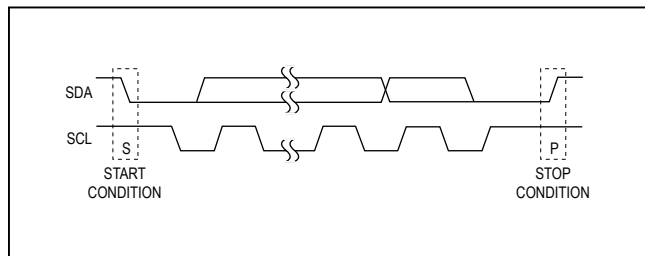

Figure 2. Start and Stop Conditions
addresses plus R/W bits, one or more data bytes, and finally a STOP condition (Figure 2).
Both SCL and SDA remain high when the interface is not busy. A master signals the beginning of a transmission with a START (S) condition by transitioning SDA from high to low while SCL is high. When the master has finished communicating with the slave, the master issues a STOP (P) condition by transitioning SDA from low to high while SCL is high. The bus is then free for another transmission (Figure 2).